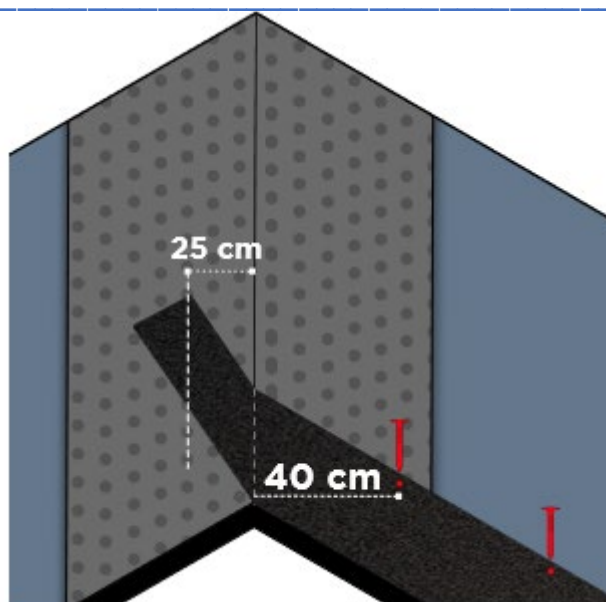

Fig. 14 - Start Line SA installation at the valleys
- As for the roof valleys, prepare a band of bituminous membrane about 100cm wide, applied by torch in advance, to ensure its waterproofing - Fig. 14. Install the Start Line SA and the shingles of the first pitch, making them rise 25 cm above the valley line. It is advisable to cut the shingle, once installed, following a parallel line to the valley at 25cm. The shingles should be fixed by torch where there is the bituminous membrane and by nail in the remaining part. Do not nail the shingles less than 40 cm from the valley line - Fig. 14.